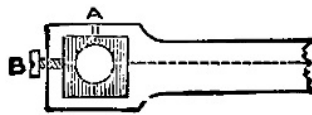

Fig. 28.
The connecting rods  $r$  should be cut to the form shown in Fig. 28, and the ends squared out and a brass bush filled in with a hole drilled from top (A) to oil by, and a set-screw  $B$  fitted to adjust the bearings perfectly.